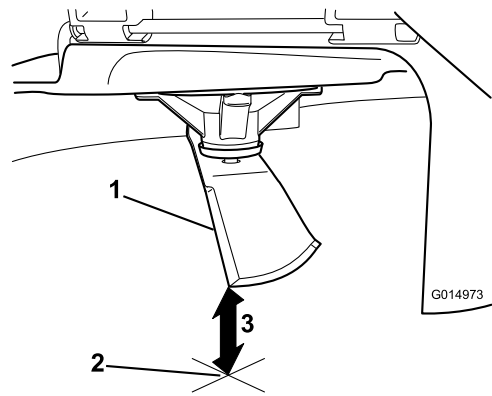

Figure 59
3. Measure from the tip of the blade to the flat surface (Figure 59).